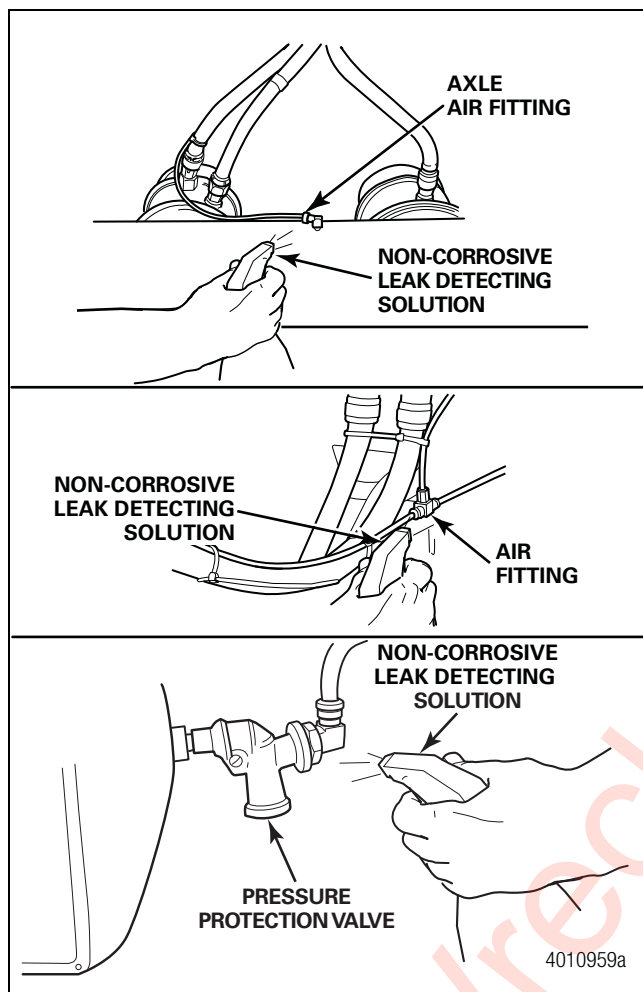
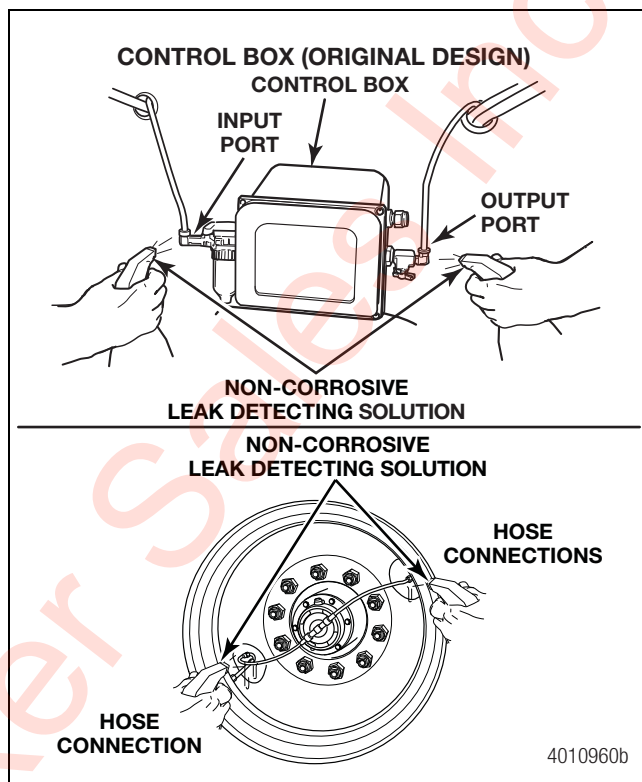
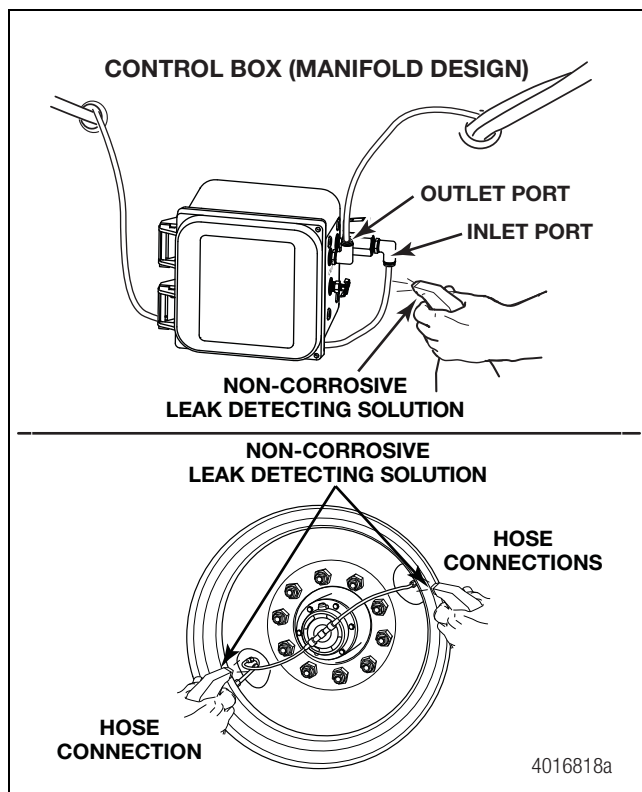

Figure 3.30
Figure 3.31
Figure 3.32
1. Test the tire inflation system for air leaks. Spray a non-corrosive leak detection solution on all fittings and hose connections to check for leaks. Figure 3.30, Figure 3.31 and Figure 3.32.